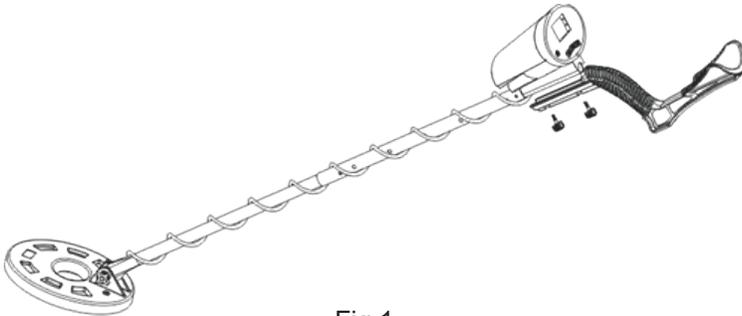

Fig.1
1. Loosen the two triangular fasten buttons under the control box, insert to the bracket, and lock the two triangular buttons. See Fig.1.